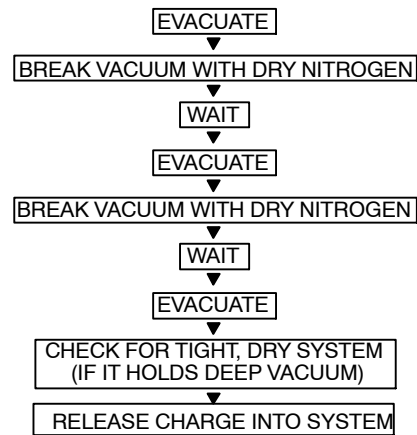

Fig. 11 – Triple Evacuation Method
The triple evacuation method should be used. Refer to Fig. 11 and proceed as follows:
- 5 Repeat this procedure as indicated in Fig. 11. The system will then be free of any contaminants and water vapor.